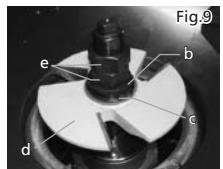

Fig.9
2. Remove both spindle nuts (Fig.9-E) and special washer (B).
4. Attach the cutter (D) to the spindle.